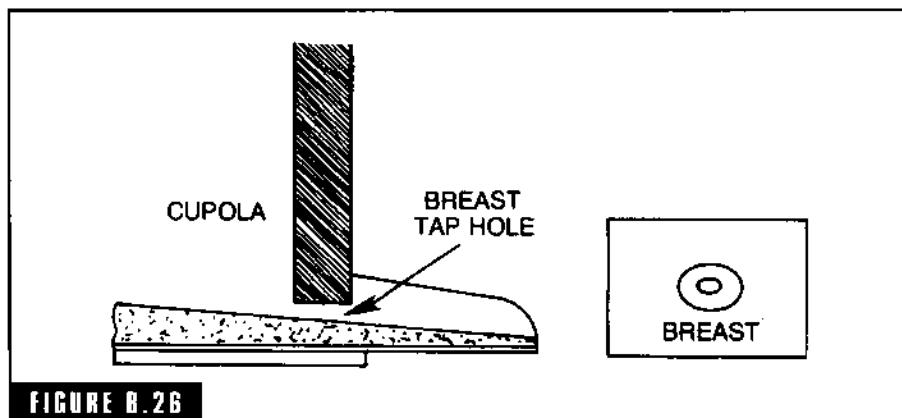

FIGURE B.26
**breast** The refractory portion of a cupola or air furnace in which the *tap hole* is located (Fig. B-26). It is located in the front of the cupola and on each side of an air furnace usually equipped with a *pouring spout*, which extends outward from the furnace to direct the stream of metal from the furnace into the receiving ladle.